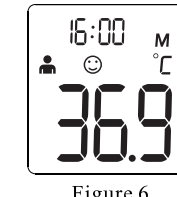

Figure 6
- The thermometer will automatically memorize the last 10 temperature readings. Each memory also records the measurement date/time/mode icon. Each time the **MODE** button is pressed, the screen displays past readings that correspond with a number 1-10. The number 1 reflects the most recent reading, while the number 10 reveals the oldest reading stored in memory. (See Figure 6)